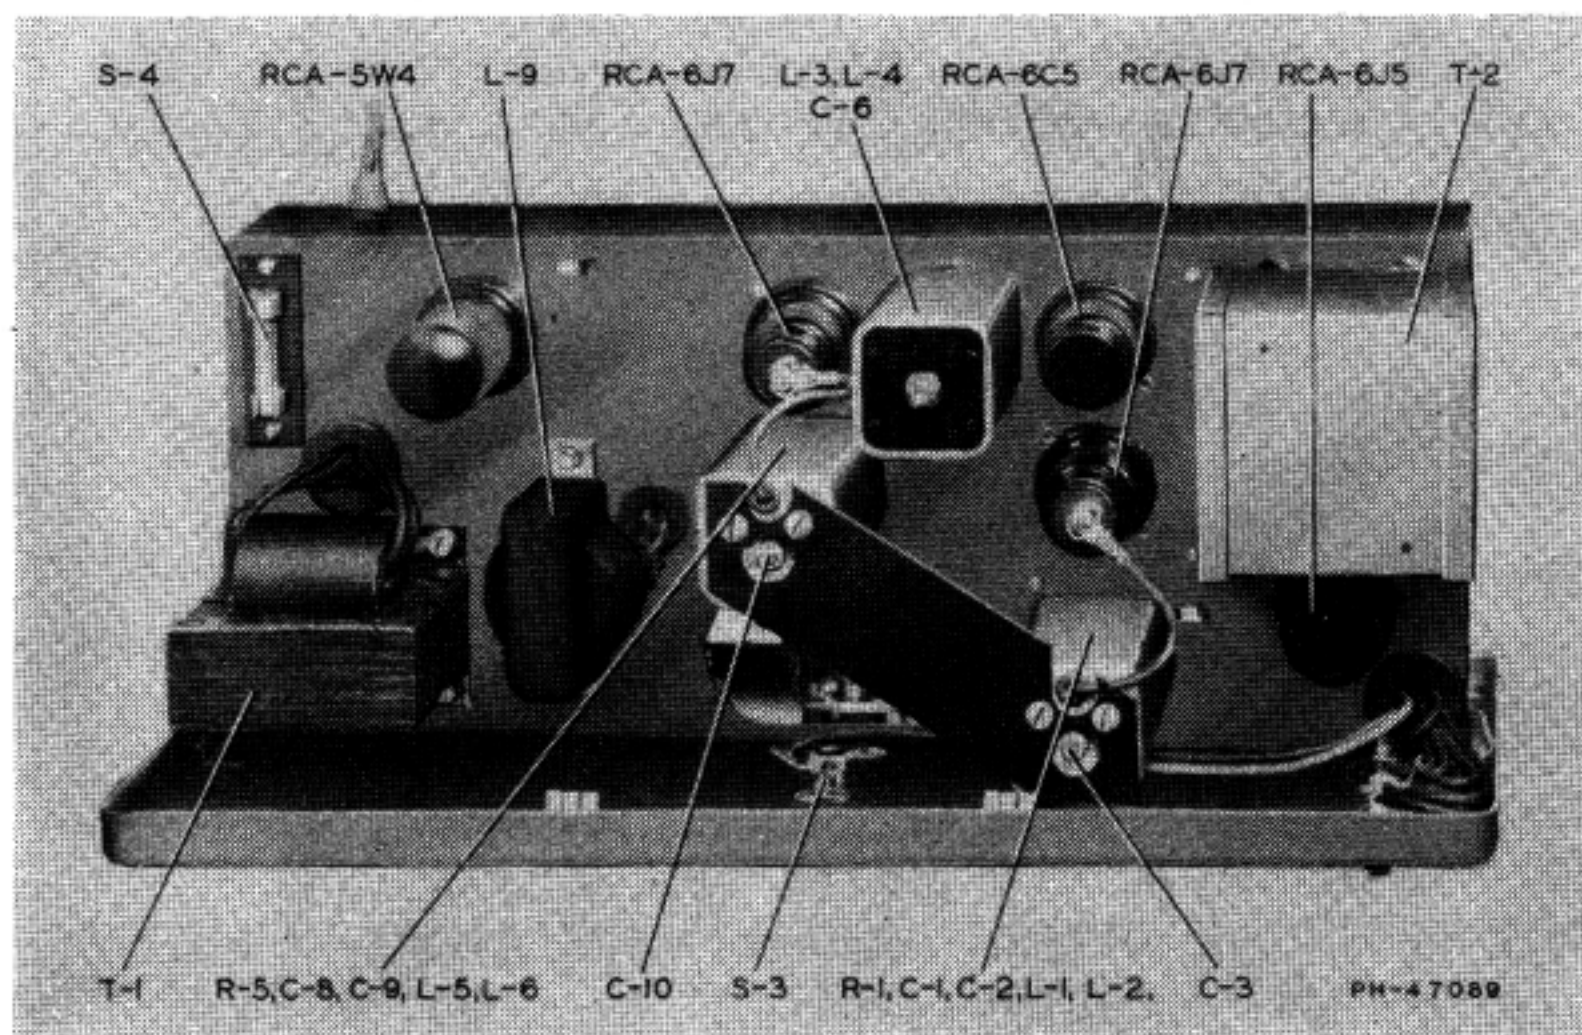

Figure 11—Top View of Chassis
These operations will feed two signals into the receiver: (1) The broadcast station carrier or the calibrator frequency, and (2) the fixed oscillator frequency from the beat-frequency oscillator. The second harmonic of the fixed oscillator will be used for indication, since its fundamental is 350 kc. Adjust trimmer C-3 of the fixed oscillator (see Figure 11 for location) until zero beat is heard in the receiver loudspeaker, indicating that the fixed oscillator is correctly tuned to 350 kc. Disconnect the lead to the receiver antenna connection.
mer C-10 of the variable oscillator (see Figure 11 for location) until zero beat occurs between the two oscillators. This point will be indicated when the neon lamp goes out entirely. A pair of headphones may be connected across the 5,000-ohm output terminals to obtain the same indication of zero beat. The oscillators are now properly aligned, but the "CAL. ADJ." setting is not correct for operation and must be adjusted as described under "Calibration."
Connect a 0-30 volt, a-c meter (equivalent load 5,000 ohms) across the two output terminals marked "5000." If a 1,000-ohm-per-volt meter is used, connect a carbon resistor of approximately 6,000 ohms in parallel with the meter to obtain the equivalent, 5,000-ohm load. Calibrate the instrument properly, as described under "Calibration." Place the "INDICATOR" switch at "USE" and advance the "OUTPUT" control to maximum. Set the main tuning control to its 1,000-cycle position. Adjust the magnetite core (L-3) on the i-f transformer (see Figure 11 for location) for maximum output.